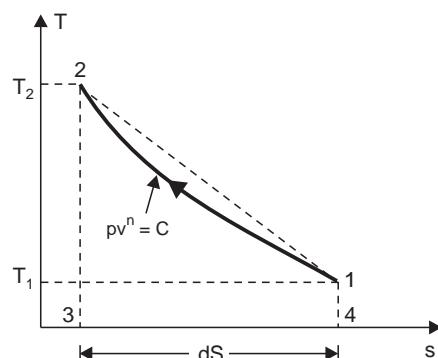

Fig. 7
**Solution.** (a) In Fig. 7 curve 1-2 represents the polytropic process ( $pv^n = C$ ) from state point 1 to state point 2. The area under the process curve 1-2 on T-S diagram represents the heat transferred during the process. The slope of the curve 1-2 is usually small and can be considered to be a straight line (shown dotted).